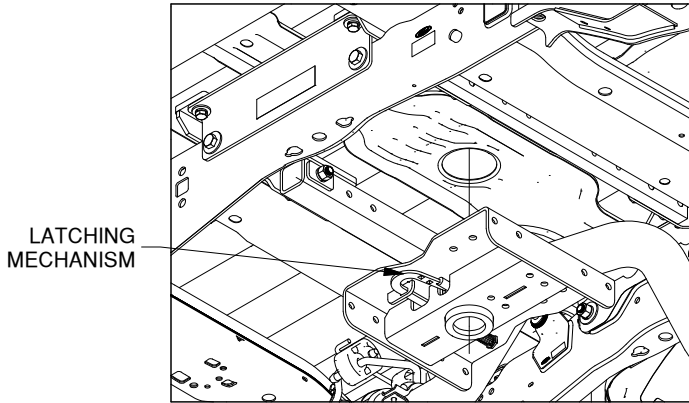

Figure C1: Bottom of truck frame looking up at hitch installation area.
1. **Position Center Section.** Push the front cross member forward and the rear cross member rearward so that there is room between them for the center section. With the square holes of the latch mechanism on the driver side, lift the center into place as shown in Figure C1.